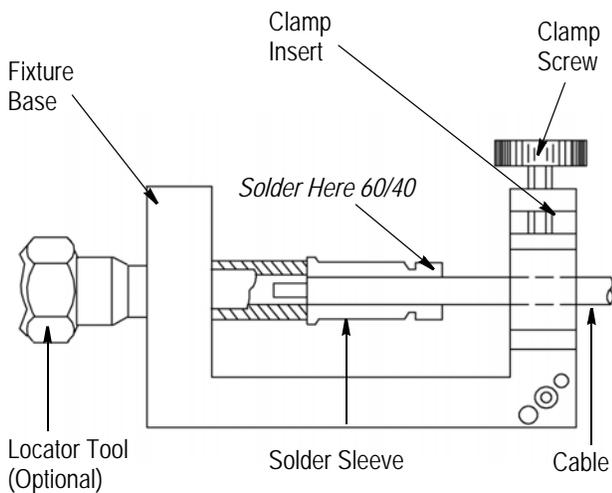

Figure 3
2. Place loose assembly in fixture base as shown in Figure 3. (Slide clamp nut back out of way).